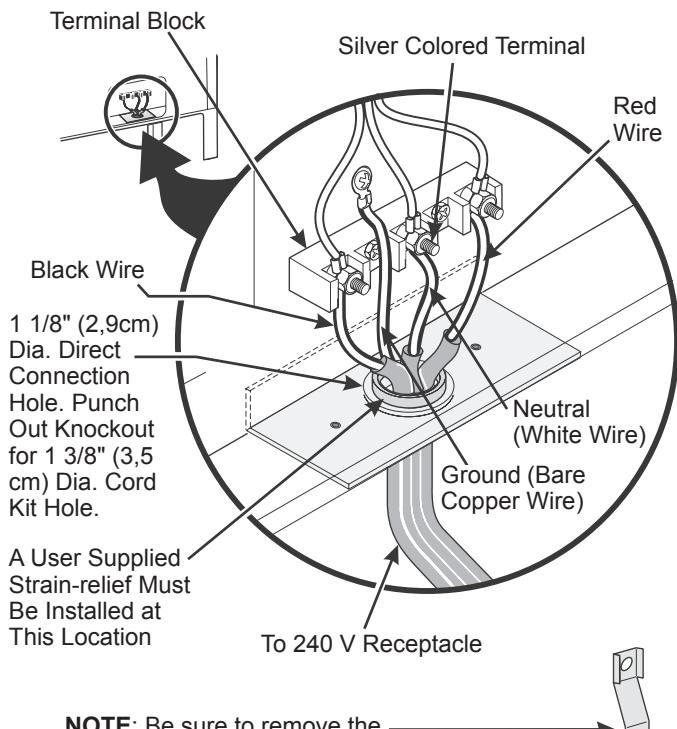

Figure 4
NOTE: Electric Slide-in Range is shipped from factory with 1 1/8" (2.9 cm) dia. hole as shown on figure 4. If a larger hole is required, punch out the knockout.
Where local codes does NOT permit connection of the frame grounding conductor to the neutral wire of the copper power supply cord (see Figure 4):
3. Using the nuts supplied with the literature package, connect the ground wire (green) of the copper power supply cord to the frame of the appliance with the ground screw, using the hole in the frame where the ground strap was removed (see Figure 4).